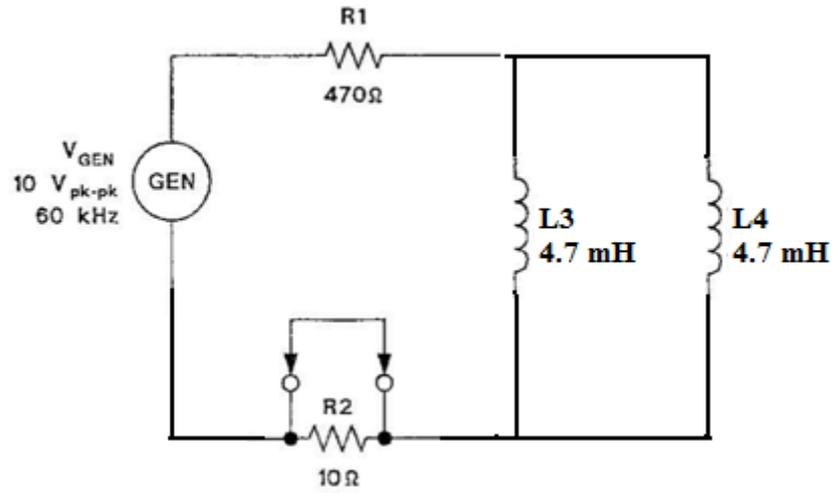

Figure 3-2: Parallel RL Circuit
4. Turn off the power source and connect the circuit shown in Figure 3-2. Measure coil resistance of R_{L3} , R_{L4} and total $R_{L3} + R_{L4}$. Record in Table 3-2.